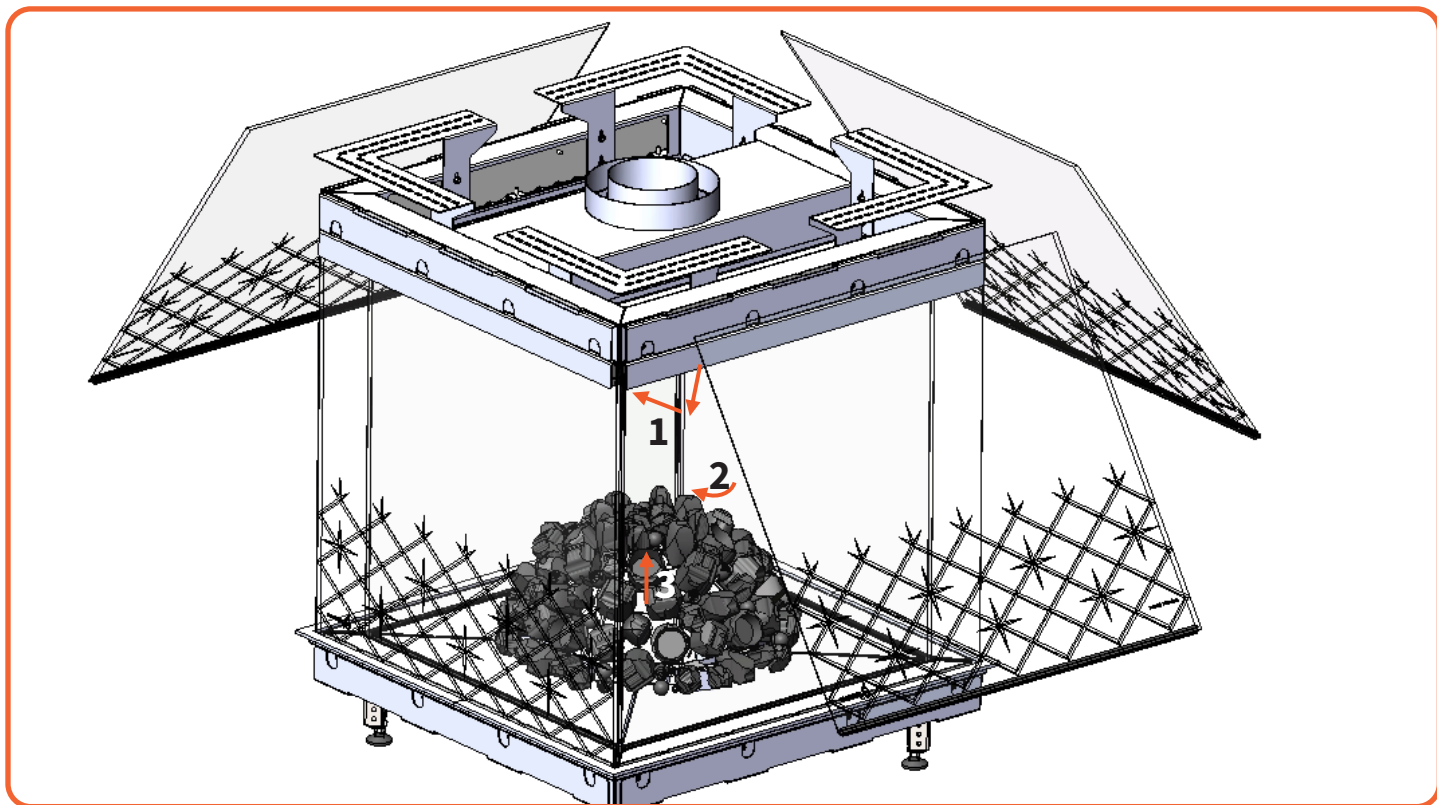

Figure 9.2 | Outer window placement method (reverse order for removal)
- Carefully lift the glass out of the lower glass rail and tilt it out a bit. Then lower it further next to the fireplace till it is clear of the top bracket before putting it away. See Figure 9.2